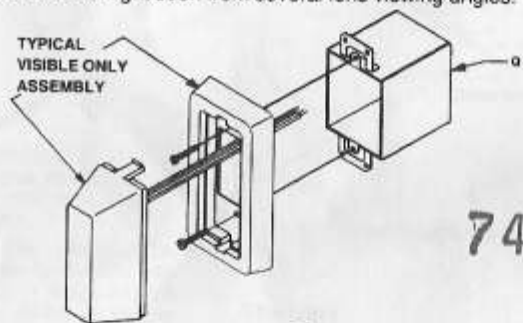

Figure 19
- B. Mount visible only assembly to single-gang back box (Q) as shown in Figure 19)